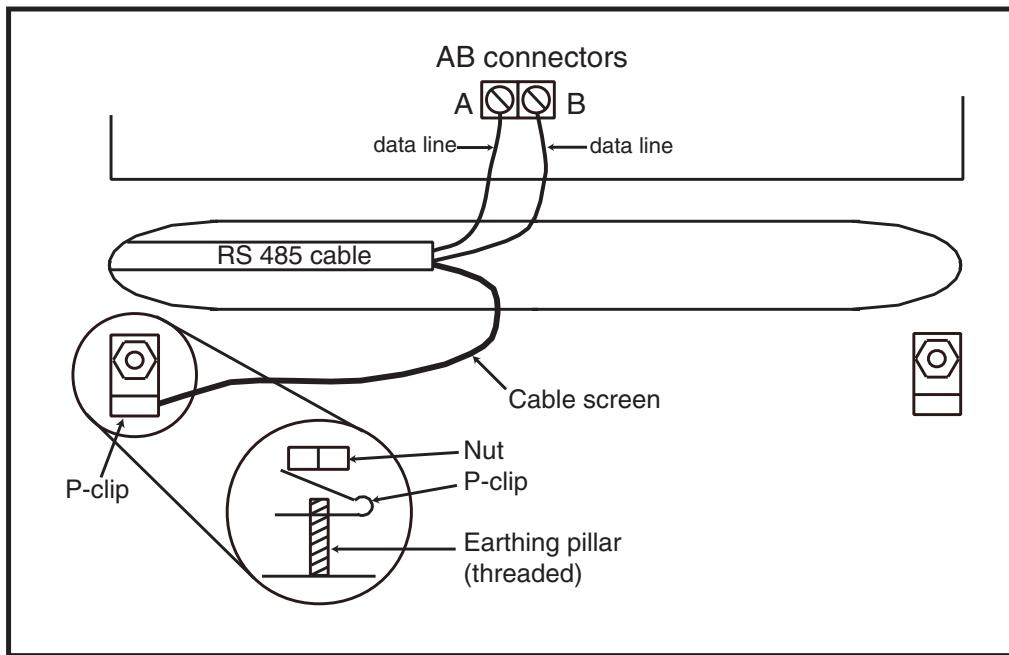

Figure 2-10. Connection of cable screen using P-Clip
3. The cable used to connect the RS485 (AB) line **must** be screened twisted pair (Part No. **W002**) or Belden 8723 equivalent.
4. Shielded twisted pair cable, where used, is connected to the earthing pillar on the Galaxy control panel using the P-clip and nut supplied (refer to Figure 2-10).